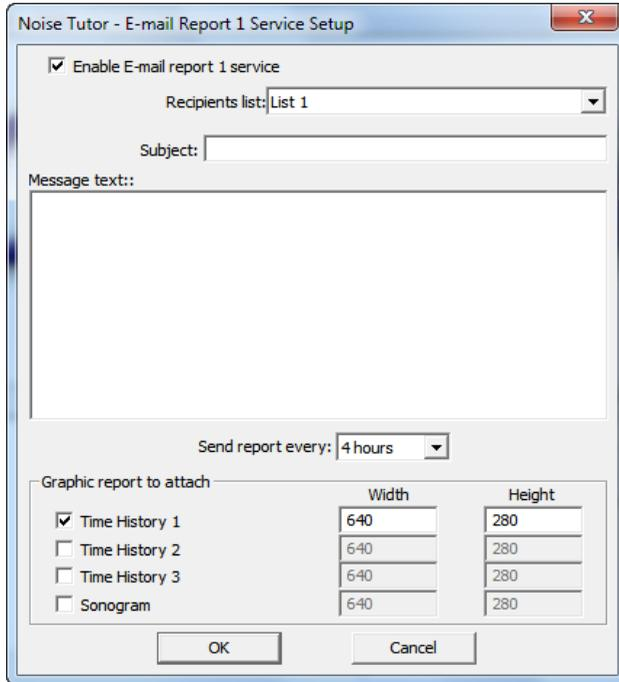

FIGURE 3-19 Realtime Report E-mail Service Setup
Step 1 On the **Setup** menu, click **Realtime Report**, and then click **E-mail 1...** This launches the **E-mail Report Service Setup** dialog box, as shown in FIGURE 3-19.
Step 2 Select **Enable E-mail report service**, as shown in FIGURE 3-19.